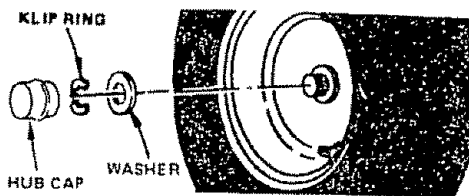

FIGURE 42
- Removing front wheel for tire repair (Fig. 42):